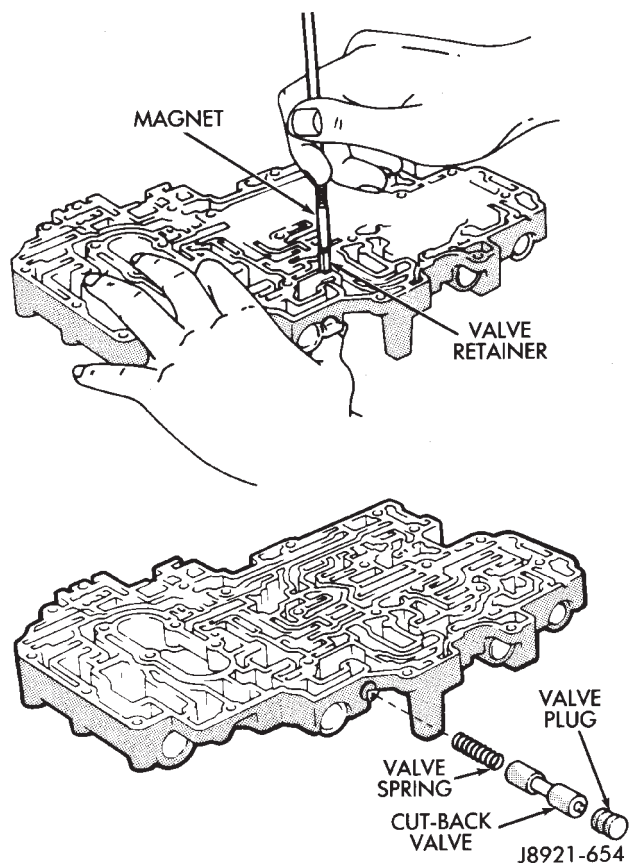

Fig. 11 Removing/Installing Cut-Back Valve
(5) Install cut-back valve spring, valve and plug (Fig. 11). Press plug inward and install retainer.